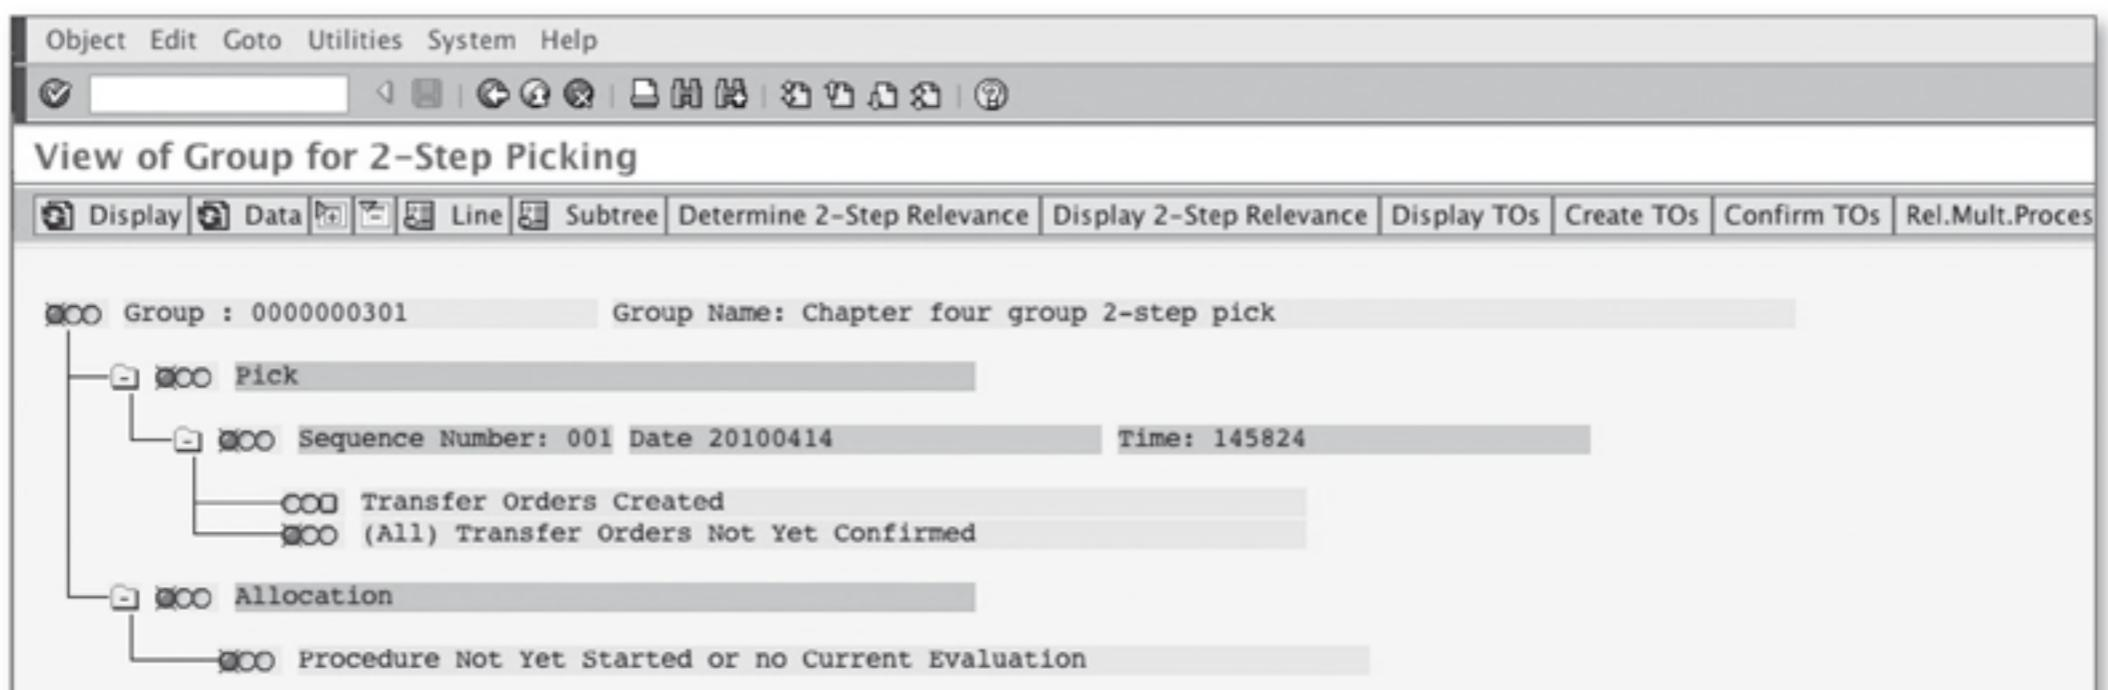

Figure 4.24 View of Group for 2-Step Picking Screen
5. The two-step monitor shows you the status for the pick or consolidated picking, and also for the allocation or individual picking, as shown in Figure 4.24.